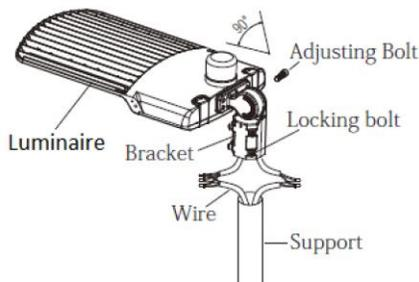

Figure 5
- Step 6:** Tilt the luminaire (0-90°) to the desired angle and tighten the Adjusting Bolt to lock the two halves of slip fitter. (Figure 5)